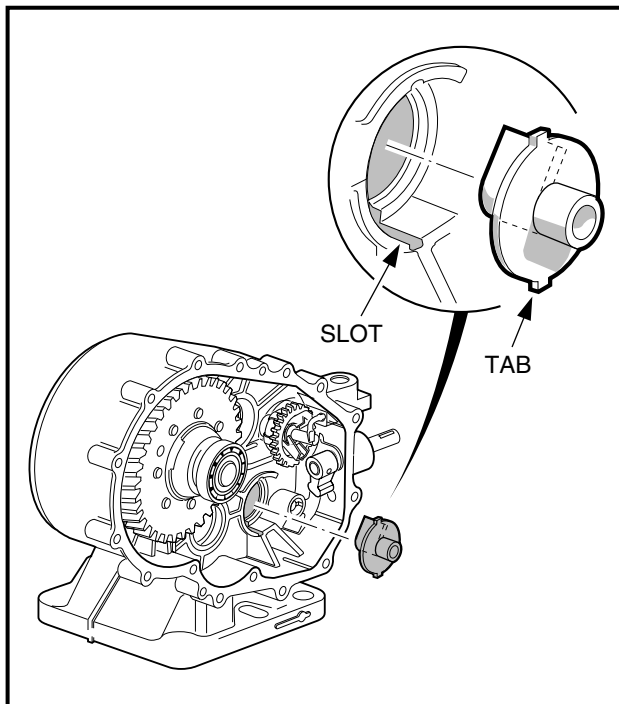

Figure 7-51 Oil Guide
- 7.3. Install the oil guide with the baffle toward the case wall (**Figure 7-51, Page 7-26**). Make sure the two tabs on the guide are positioned in the slots in the case.